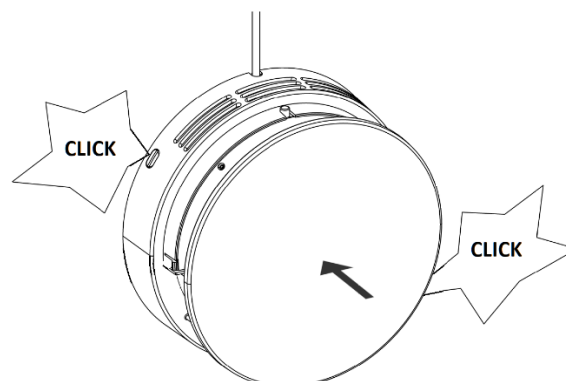

Figure 17 - The ventilation unit is placed back in the wall
5. Place the ventilation unit back in the wall, and carefully press it all the way in until the spring catches make a click, see Figure 17 below.